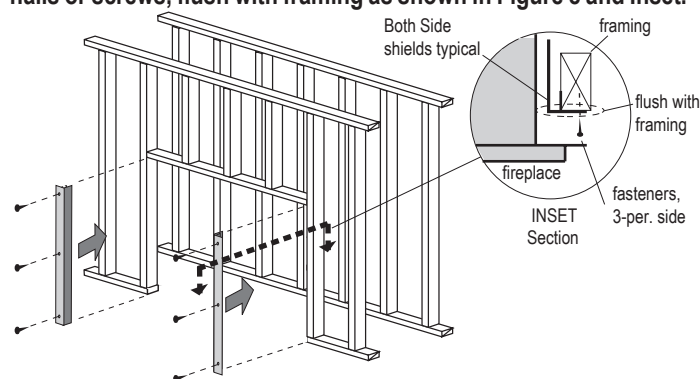

Figure 8. Combustible Framing Side Heat Shield L52FS01x2, (two 2-pcs).
NOTE: The shields must be installed as shown in Figures 8 - 8b.
Step 1. Fasten the two Side shield's (L52FS01x2) first, and ensure they are fastened in place as shown. These are installed with the Wide flanges facing the center of the fireplace opening, and the shallow flange toward inside of room. These are also fastened with nails or screws, flush with framing as shown in Figure 8 and Inset.